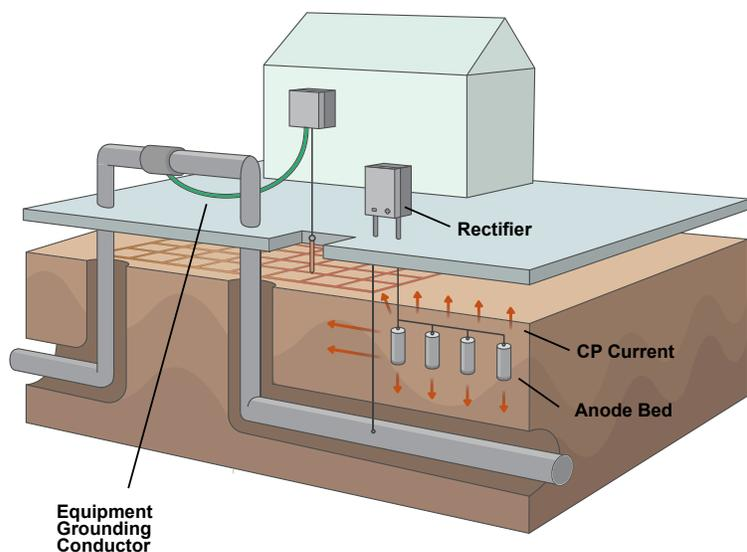

Figure 1: Pipeline electrically shorted to station grounding affects CP
Cathodic protection (CP) is most easily achieved when the protected structure is electrically isolated from other structures and from grounding systems. This results in lower current requirements from CP sources, such as rectifiers or galvanic anodes, and generally allows the user to achieve the required voltage criteria for protection against corrosion, per National Association of Corrosion Engineers (NACE) guidelines. However, many cathodically protected structures, such as pipelines and tanks, are inadvertently bonded to other structures and grounding systems, where CP personnel can easily detect that an electrical short exists but can have great difficulty in remediating this connection. Figure 1 shows the typical scenario at a block valve site, where CP is bonded to the grounding system. It is often possible for personnel to specifically identify the bond that shorts the CP system, but they may be unsure of solutions, especially when the short is an electrical grounding conductor that relates to codes and safety.